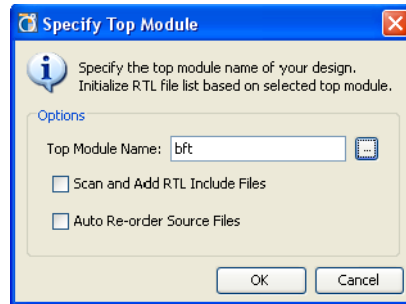

Figure 5-1: Specify Top-Module Dialog Box
2. In the **Specify Top Module** dialog box, shown in Figure 5-1, page 177, enter the top-level module and click **OK**.